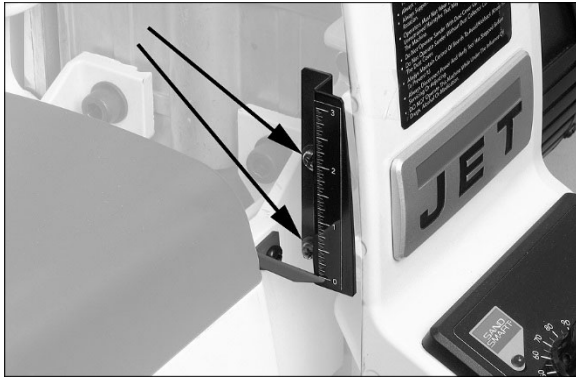

Figure 8-1: depth scale adjustment
3. At this drum position, the depth scale pointer should align with zero mark on scale. If it does not, loosen two screws (Figure 8-1) and raise or lower scale until zero aligns with the pointer.